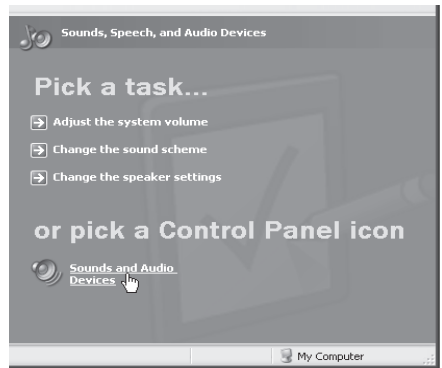

Figure 3
3. The volume can be changed by going to Control Panel and opening Sounds and Audio Devices (figure 3).